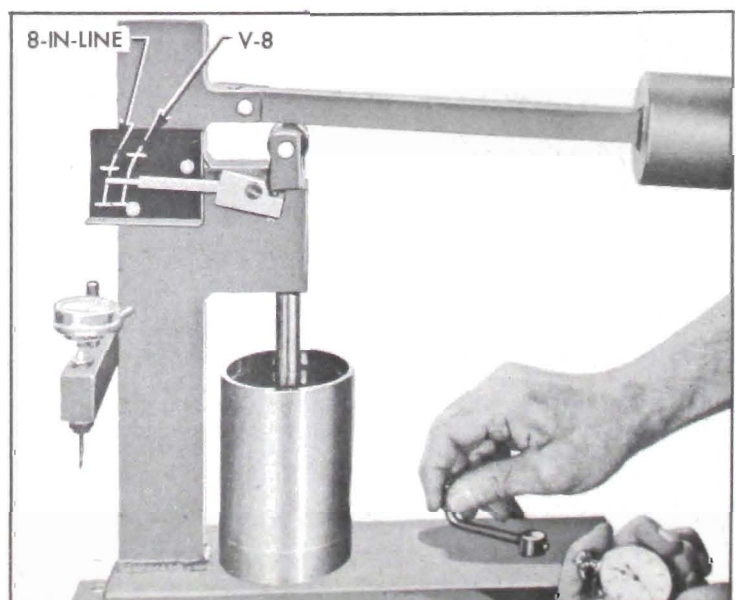

Figure 2-25—Checking Leakdown Rate
4. Lower the ram to rest in the lifter push rod seat, then lower the weight arm to rest on the roller of ram as shown in figure 2-25.